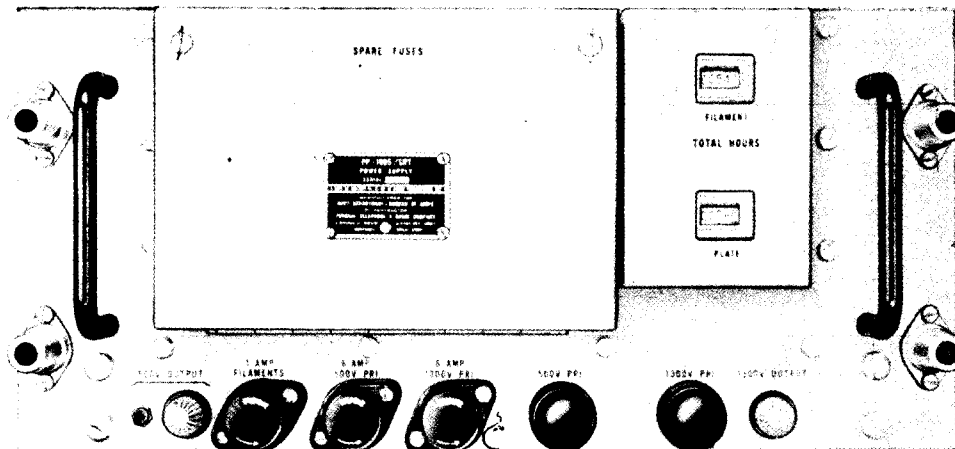

Figure 9-7.—Medium voltage power supply (MVPS) PP-1095/SRT.
Power Supply Unit PP-1095/SRT (fig. 9-7) is commonly called the medium-voltage power supply (MVPS). It contains the necessary power transformers, rectifier tubes, filter components, and miscellaneous parts to provide outputs of +500 volts and +1050/1300 volts for the IPA and PA tubes of the RFA and portions of the low-level radio modulator. This unit is energized by operating the appropriate controls on the front panel of the low-voltage power supply. The +500-volt supply is used when the equipment is operating at the 100- and 500-watt levels, but the +1050/1300-volt supply is used only at the 100-watt level. The +1050-volt output is used with phone service only; whereas, the +1300-volt output is used with all other modes of transmission. The elapsed time meters on the front panel are provided for logging transmitter-group tube hours (filament and plate).
1. The +500-volt and the +1050/1300-volt supplies together with the 500-volt primary, 500-volt output, 1300-volt primary, and 1300-volt output indicator lights in the MVPS (fig. 9-7) will energize.
- b. The +1050/+1300-volt supply in the MVPS (fig. 9-7) is deenergized and the 1300-volt primary and 1300-volt output indicator lights in the MVPS will be extinguished.